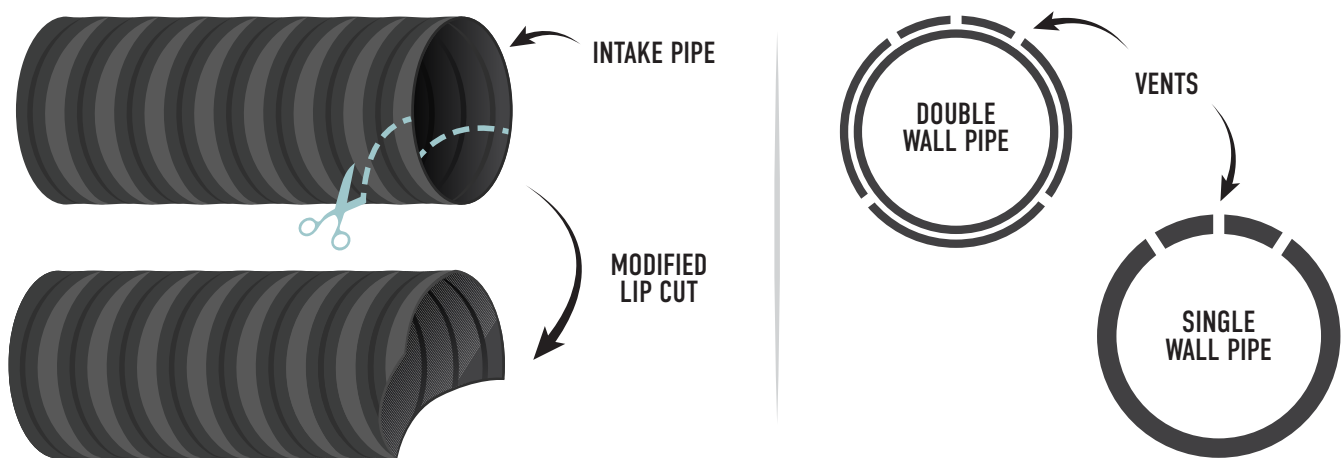

Figure 2. Modification to intake pipe and locations for pipe vent cuts.
- **Dispersed intake flow:** The uniform, circular lip of the intake pipe must be disrupted to prevent the intake flow coupling with the pond surface (a whirlpool) if the intake cage is positioned in less than 4' of water. One effective method is to cut a half-circle of pipe material out of the bottom lip of this opening (Figure 2).
4. Cut a half-circle out of the bottom lip of the intake pipe at its mouth approximately 6" deep and 8" wide (Figure 2).
10. Cut small holes or slits (1/8 inch) at the crest of every rib in the single wall culvert pipe at 11, 12 and 1 o'clock in orientation (Figure 2). Running a portable circular saw down the length of the pipe with the blade set at an appropriate depth is a quick and efficient technique. Capture and dispose of the plastic debris.
11. Cut small holes or slits (1/8 inch) at the crest of every rib in the double wall culvert pipe at 4, 8, 11, 12 and 1 o'clock in orientation (Figure 2). Cut through only the outer wall to allow air trapped between the ribbed exterior layer and smooth interior layer of plastic to escape. Capture and dispose of the plastic debris.
17. Cut a half-circle out of the bottom lip of the mouth of an 8" intake pipe and install with the intake positioned at the midpoint along the flat side of the cage (Figure 2).
26. Cut half-circle out of the bottom lip of an 8" intake pipe at its mouth and install in the center of upstream cage (Figure 2).